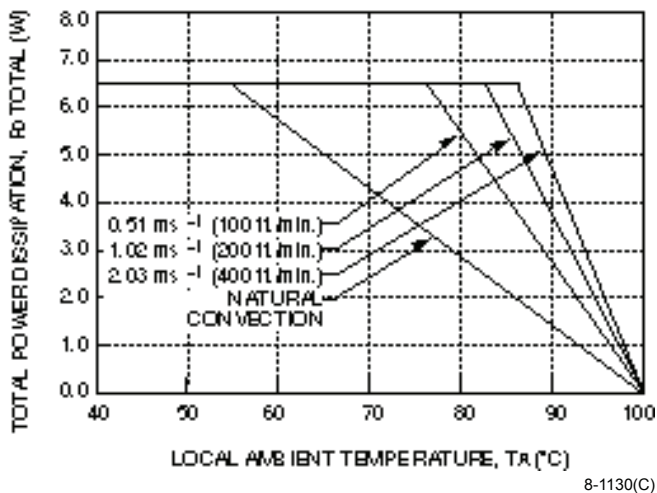

Figure 28. Total Power Dissipation vs. Local
The maximum operating temperature of the CC025 Triple-Output-Series Power Modules at a given operating condition can be predicted by combining the power dissipation curves (Figures 23 through 27), the power derating curve (Figure 28), and the thermal resistance curve (Figure 29).
6. Use the estimated total power dissipated (P_{Dtotal}) along with Figure 28 to determine the maximum ambient temperature allowable for a given air velocity.
Figure 28 shows that in natural convection the maximum operating ambient temperature for this module is approximately 66 °C.
The air velocity required to maintain a desired maximum case temperature for a given power dissipation and ambient temperature can be calculated using Figure 28 and the following equation:
This corresponds to an airflow greater than 0.38 ms⁻¹ (75 fpm) in Figure 28.